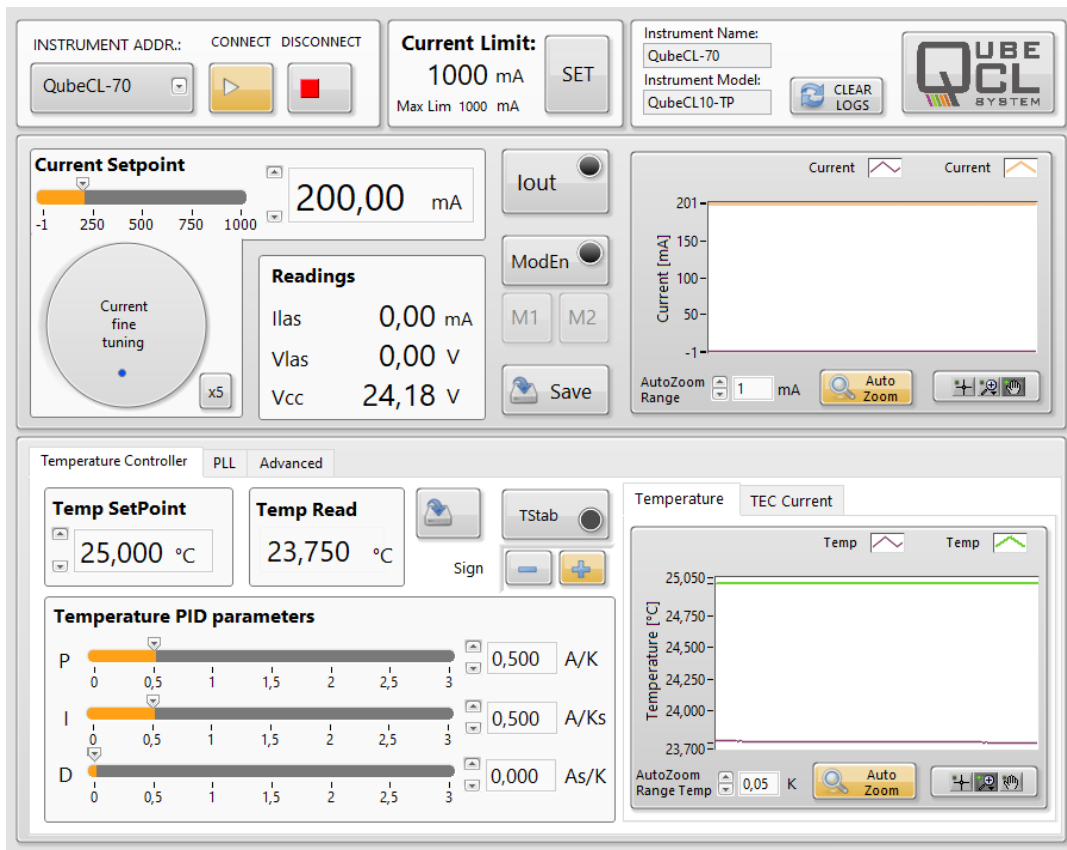

Figure 3: Graphical view of the QubeCL control software: connected instrument
- A screen as the one shown in Figure 3 appears